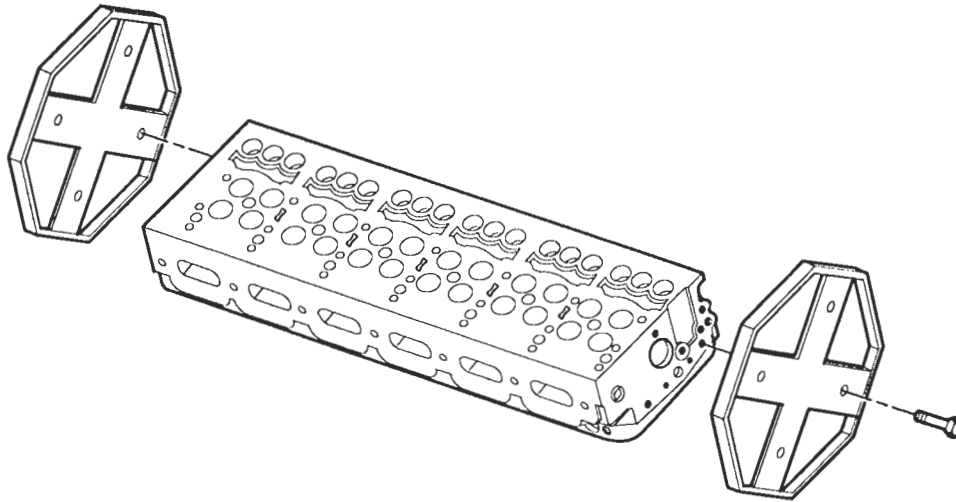

Figure 7. Cylinder Head Mounted on Holding Plates (J 3087-01)
15. Place the cylinder head on its side and remove the engine lifter brackets and gaskets. Then, attach the cylinder head holding plates J 3087-01 to raise the head above the work bench (Figure 7.)